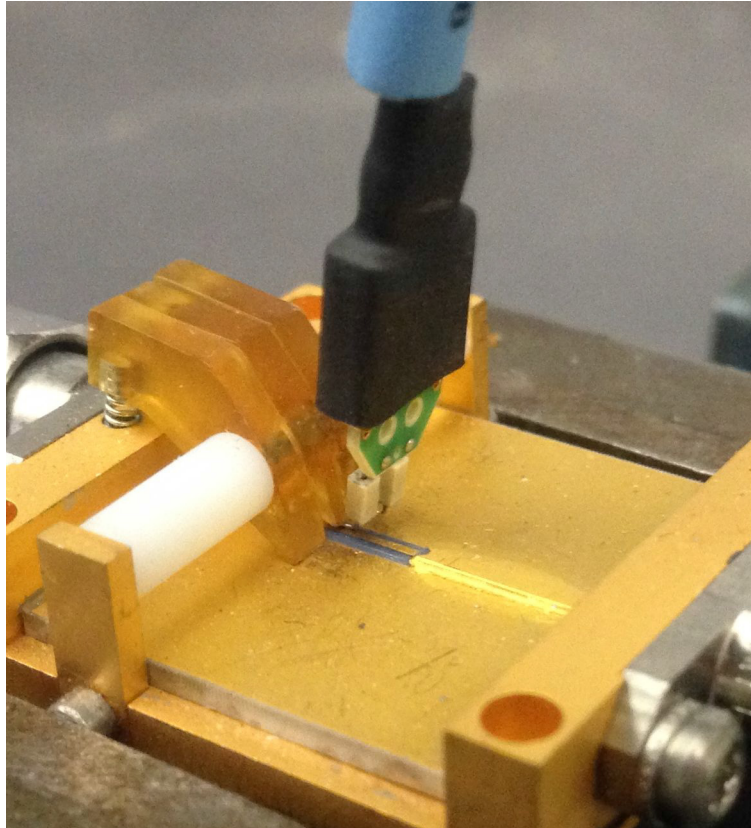

Figure 103 Close-Up of Tip Wires Positioned Under Pincher
- c Depress the actuators on the pincher and carefully insert one wire under the center pincher and the other wire under one of the side pincher. Either polarity of the probe can be tested and will yield the same results (but opposite phase) if the probe is working properly. **Figure 103** on page 144 shows a close up of the tip wires positioned under the pincher.